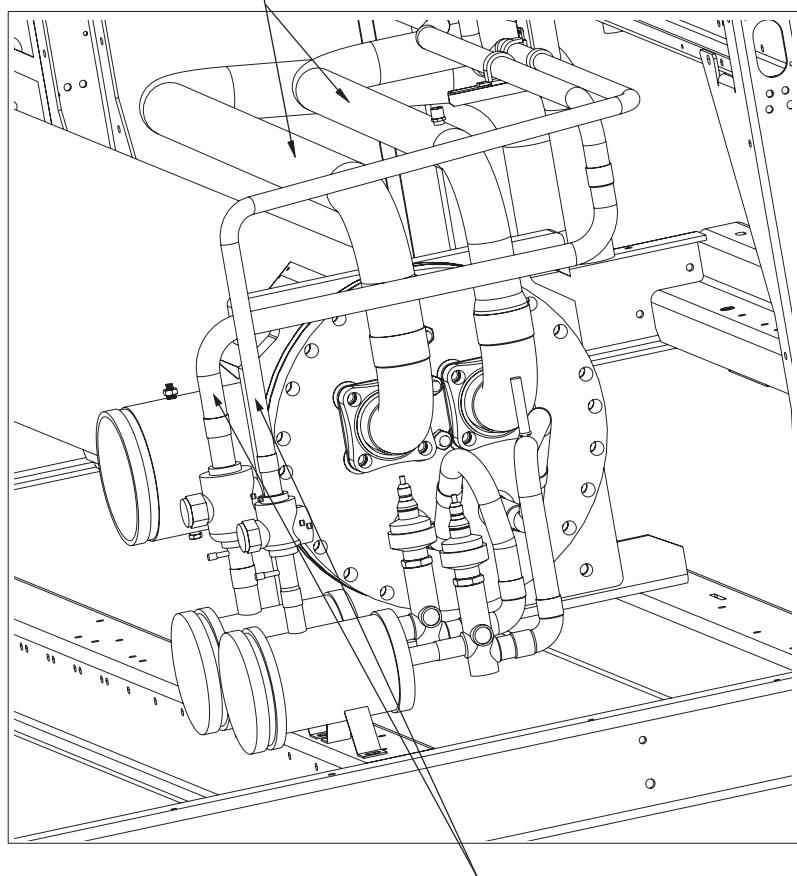

Fig. 4 — Typical Cooler Piping
- At the base unit, remove the filter drier, EXV, and service valve assembly. Cut the liquid line in a convenient location to allow installation of the liquid line service valves included with the accessory kit. See Fig. 4. Make sure to label the EXVs as they are removed.